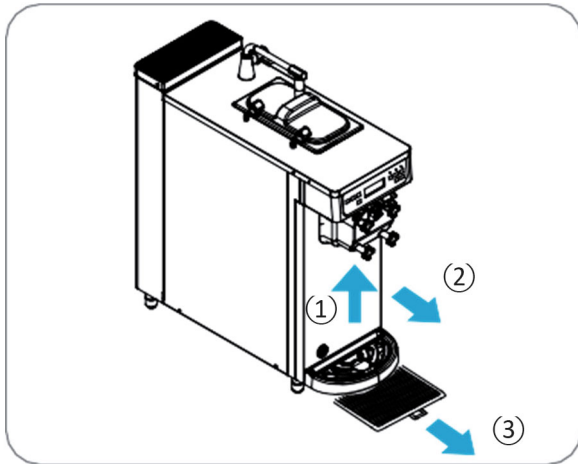

Figure 5-34
The filter is located at the bottom front of the unit, below the drip tray. (See item 3 in Figure 5-34.) Lift and remove the drip tray and splash guard, then gently pull out the filter.